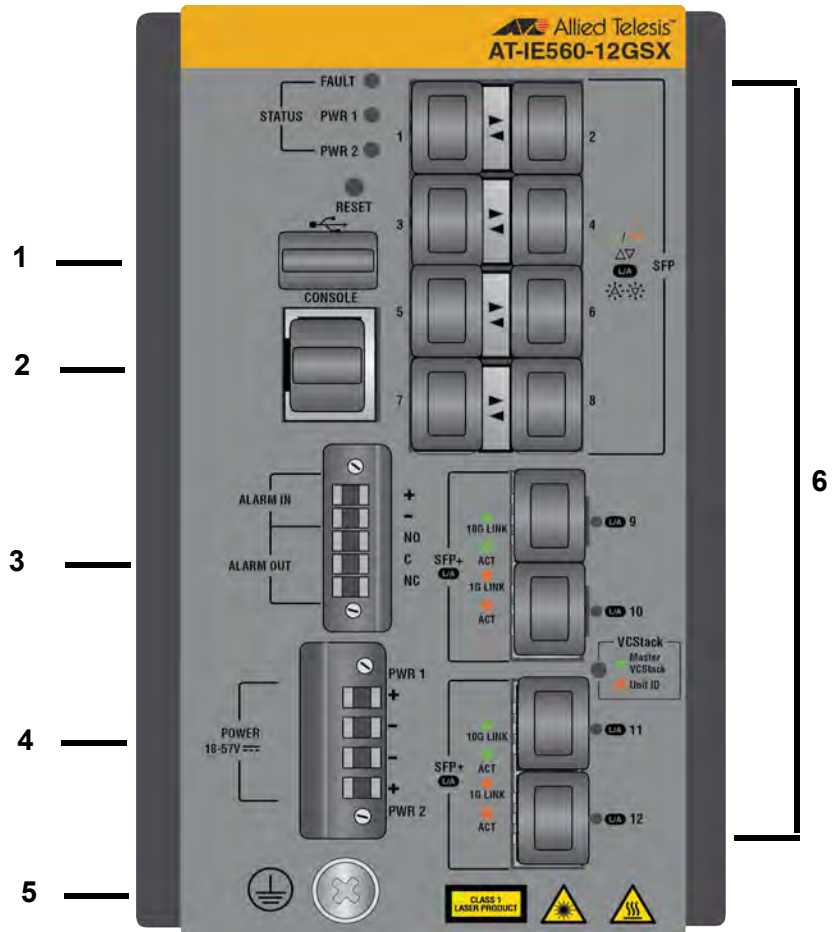

Figure 21. Pre-installed Components on the IE560-12GSX Switch
3. Verify the contents of the shipping container. Figure 21 and Table 9 identify the pre-installed components.